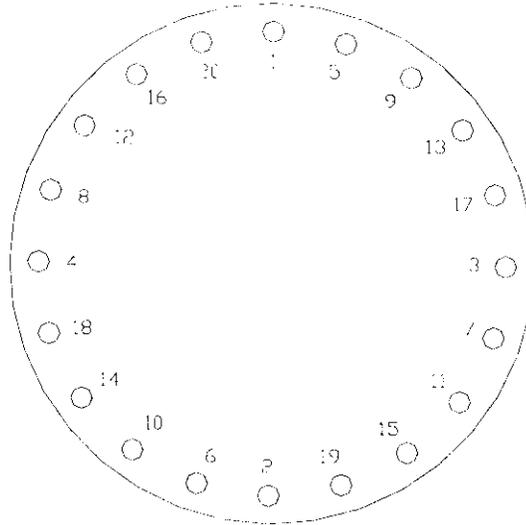

Figure 1.26 Tightening sequence for the 20 Conflat bolts.
- 1.26 Use a 5/16 12-point socket to tighten the 20 Conflat bolts. The tightening must be made gradually in 1/4 turn increments to a final torque of 15 ft-lbf (180 in-lbf). The tightening sequence is given by Fig. 1.26.